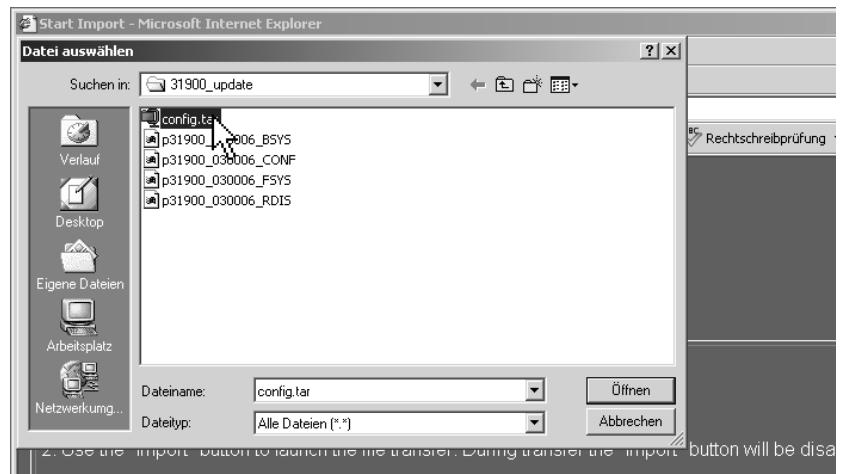

Fig. 8-22: The import file selection dialog box (config.tar.gz)
4. Choose the folder (e. g.: C:\31900_update) with the user settings data file and click the file **config.tar.gz** (see Fig. 8-22).